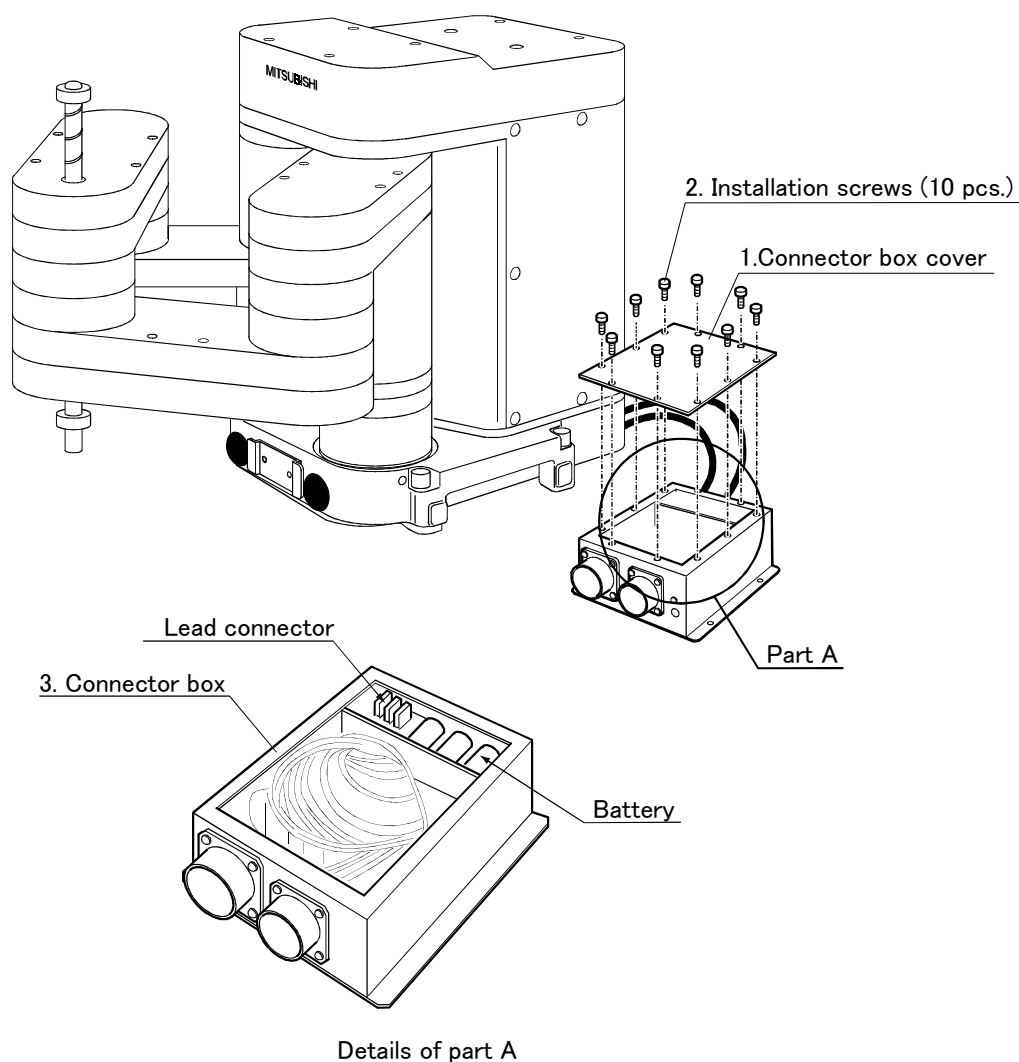

Fig.5-12 : Replacing the battery
- 4) Remove the installation screws 2 shown in Fig. 5-12, and remove the connector box cover 1.